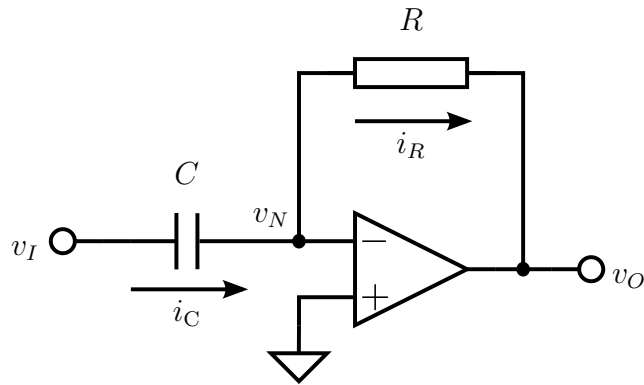

Figure 1.11: Differentiator circuit.
- Calculate the transfer function of the differentiator circuit shown in Fig. 1.11 by equating the currents i_C and i_R that flow through node v_N . As before, use $R = 100$ k Ω and $C = 10$ nF.